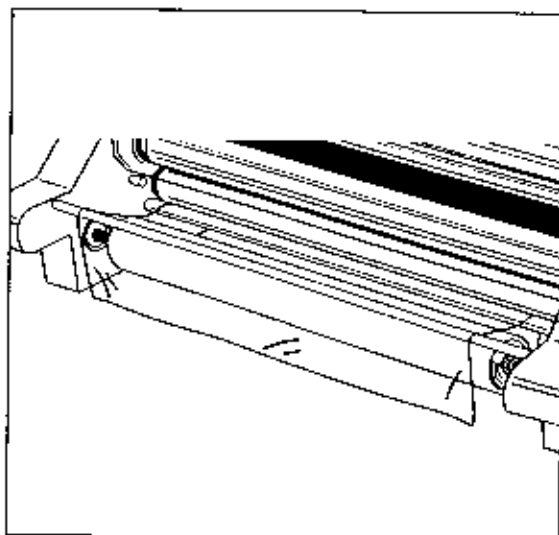

Fig. 7
10. Unroll 2 ft. (61 cm) of film. Push leading edge under and around bottom idler bar. Slide the idler bar back into place and drape film over bottom film roll, (Figure 7). Place the bottom roll of film back on the laminator by sliding the shaft into the round hole of the right side frame and the left side into the hex shaped brake hub.